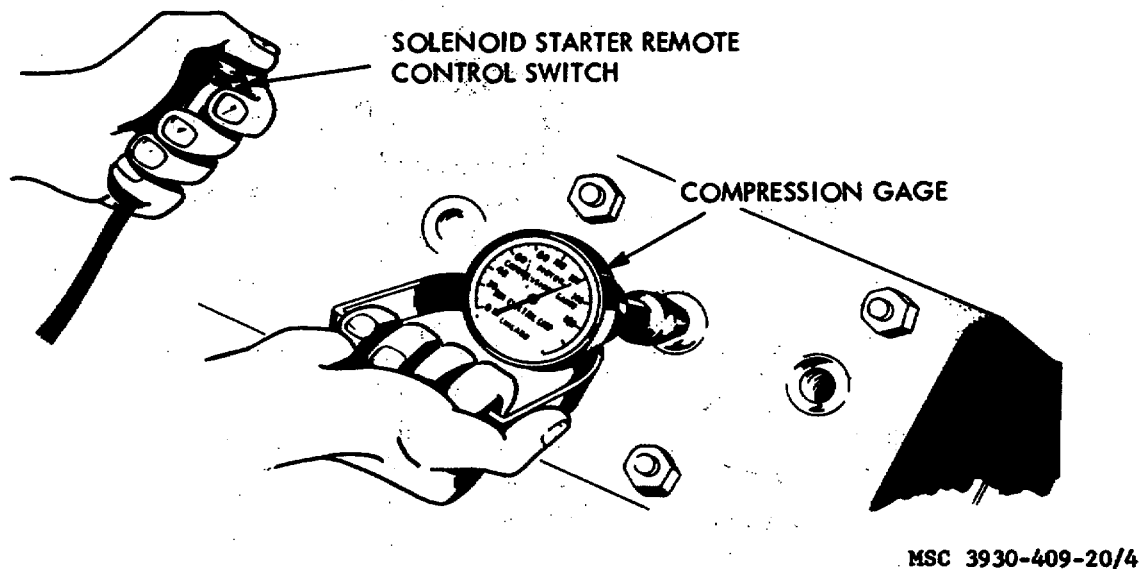

Figure 3-42. Engine compression test.
- f. Insert compression tester in spark plug hole (fig. 3-42) using an adapter if necessary.